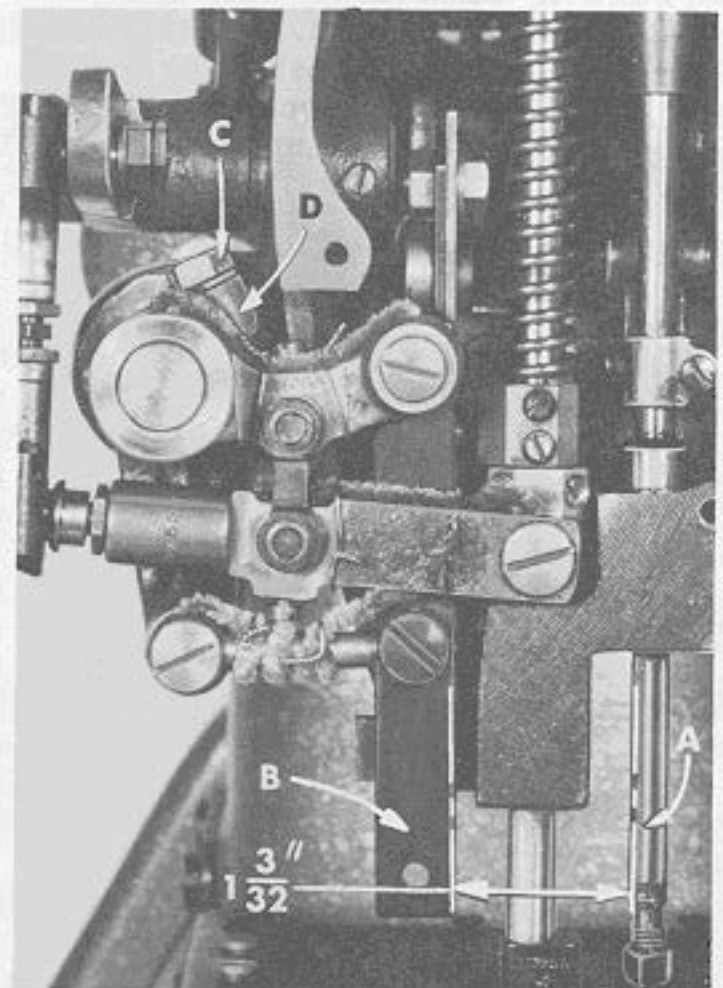

Fig. 8
As the needle bar just begins to rise from the bottom of its stroke, the distance between the rear of the needle bar (A, Fig. 8) and the front of the upper feed bar (B) should be $1 \frac{3}{32}$ inch (Fig. 8). Adjustment can be